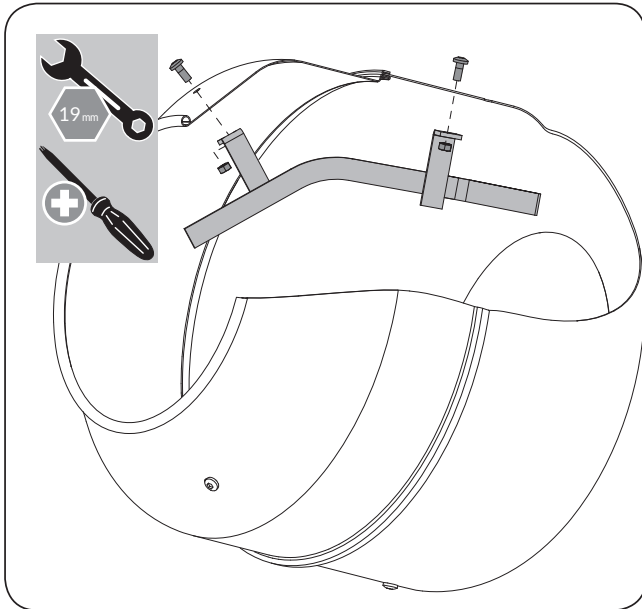

Figure 2
1. Insert a M12x25 philips screw from outside through the hole in the drum. Mount the mixing blade on the screw from inside. Secure it loosely with a M12 nut. (See **Figure 2**)